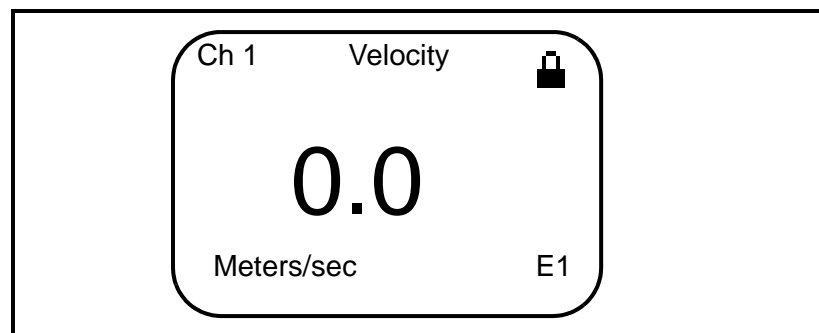

Figure 4: UTX878 Screen with Locked Program
5. Press [ESC] to return to the User Program, or continue pressing [ESC] to return to the display screen. If you have chosen to fully lock the UTX878, the screen appears similar to *Figure 4* below, with a solid lock in the upper right corner. (For a meter with only the user program locked, the lock shows a keyhole in the center.)